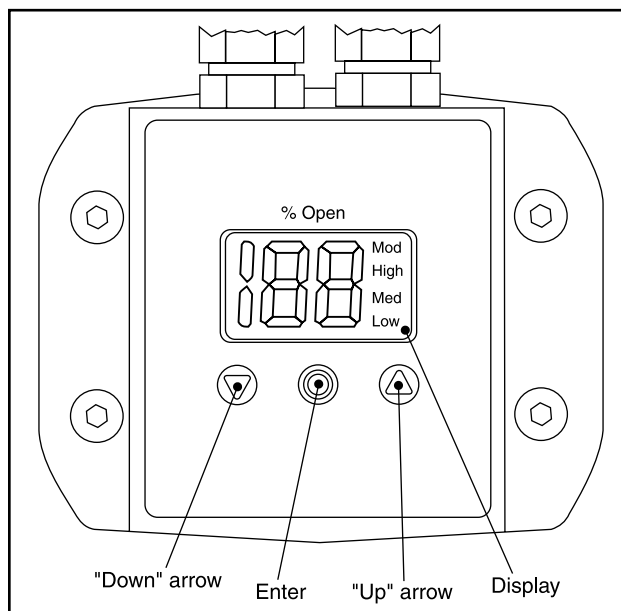

Figure 22
The setting of parameters is managed by means of the integrated ICAD MMI (Figures 22 and 23) and consists of:
- "Down" arrow push button (Figure 22)
- "Up" arrow push button (Figure 22)
- Enter push button (Figure 22)
- To exit from the Parameter list and return to the display of Opening Degree (OD), keep the push button activated for 2 seconds.
- Display (Figure 22)
- Displays the function status by means of text (Figure 22).
If an alarm has been detected the ICAD display (Figure 22) will alternate between showing Actual alarm and present Opening Degree.
5. When the display on ICAD (Figure 22) is alternating between showing: **CA** and **A1** the factory resetting is complete.